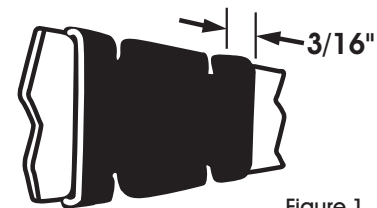

Figure 1
5. This tool is a single notch-type sealer that requires two sealing operations for each seal. A properly notched seal will appear as shown. (See Figure 1) Each notch should be placed no less than 3/16" from the seal edge. If the notched seal does not appear as shown, inspect the tool for worn and/or damaged parts. Replace tool parts as needed. Do not ship any loads secured with improperly notched seals. Seal must be properly notched.